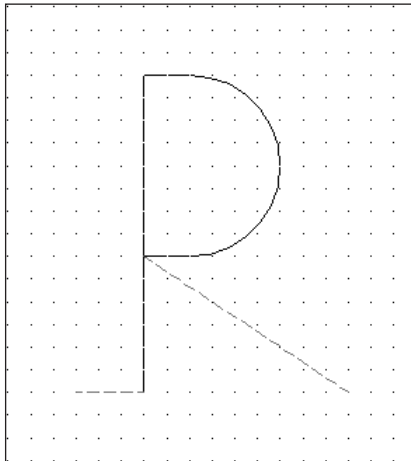

Figure 32-7: An uppercase P
2. Save the file as ab32-01.dwg in your AutoCAD Bible folder. This drawing shows an uppercase P, with dashed lines to indicate space before and after the letter, as shown in Figure 32-7. This is the type of drawing that you use as a basis for creating a shape definition.